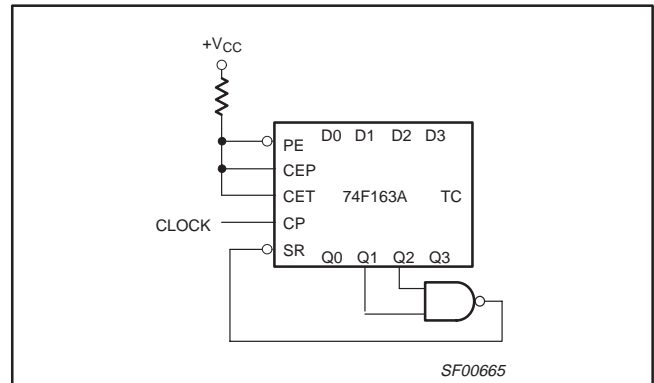
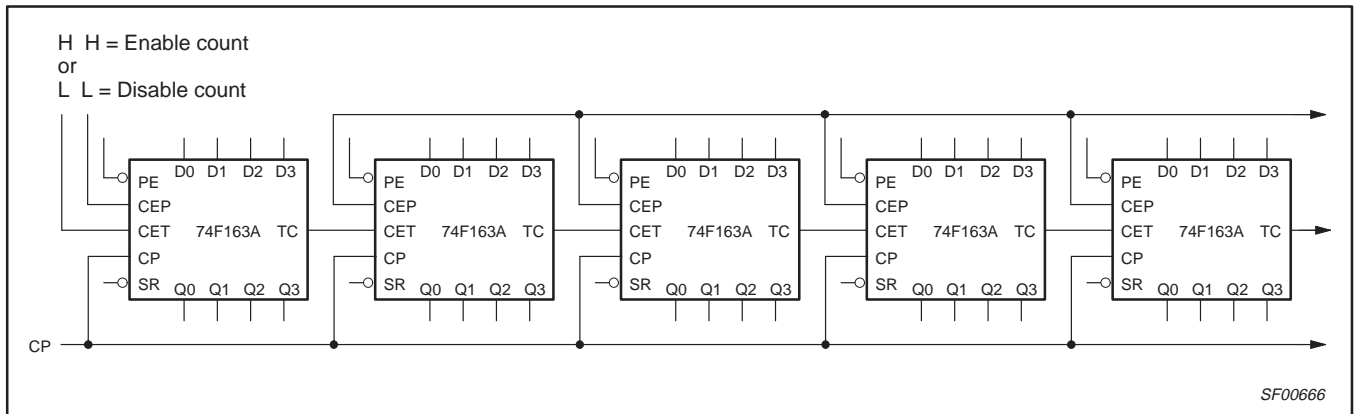

Figure 1. Maximum count modifying scheme
Figure 2. Synchronous multistage counting scheme
A Low level at the Master Reset ($\overline{\text{MR}}$) input sets all the four outputs of the flip-flops (Q0 – Q3) in 74F161A to Low levels, regardless of the levels at CP, $\overline{\text{PE}}$, CET and CEP inputs (thus providing an asynchronous clear function). For the 74F163A, the clear function is synchronous. A Low level at the Synchronous Reset ($\overline{\text{SR}}$) input sets all four outputs of the flip-flops (Q0 – Q3) to Low levels after the next positive-going transition on the clock (CP) input (provided that the setup and hold time requirements for $\overline{\text{SR}}$ are met). This action occurs regardless of the levels at $\overline{\text{PE}}$, CET, and CEP inputs. The synchronous reset feature enables the designer to modify the maximum count with only one external NAND gate (see Figure 1). The carry look-ahead simplifies serial cascading of the counters. Both Count Enable (CEP and CET) inputs must be High to count. The CET input is fed forward to enable the TC output. The TC output thus enabled will produce a High output pulse of a duration approximately equal to the High level output of Q0. This pulse can be used to enable the next cascaded stage (see Figure 2). The TC output is subjected to decoding spikes due to internal race conditions. Therefore, it is not recommended for use as clock or asynchronous reset for flip-flops, registers, or counters.